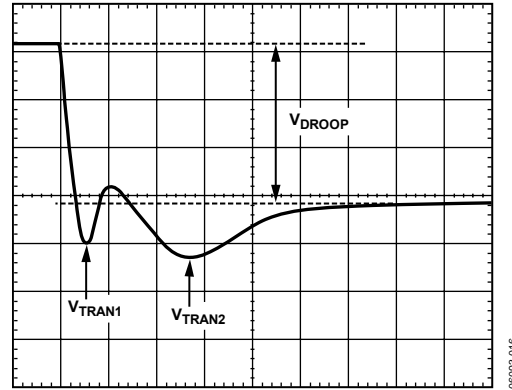

Figure 18. Transient Setting Waveform
- With the dynamic load still set at the maximum step size, expand the scope time scale to either 2  $\mu\text{s}/\text{div}$  or 5  $\mu\text{s}/\text{div}$ . The waveform can have two overshoots and one minor undershoot (see Figure 18). Here,  $V_{DROOP}$  is the final desired value.